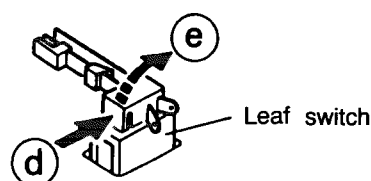

Fig.2-19
(See Fig.2-19)
Press the leaf switch in the direction of the arrow ④ and then remove it in the direction of the arrow ⑤ referring to Fig. 2-19.